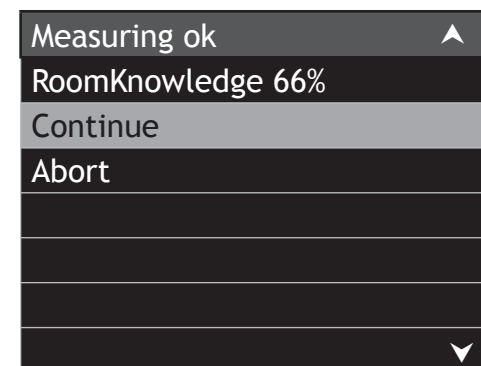
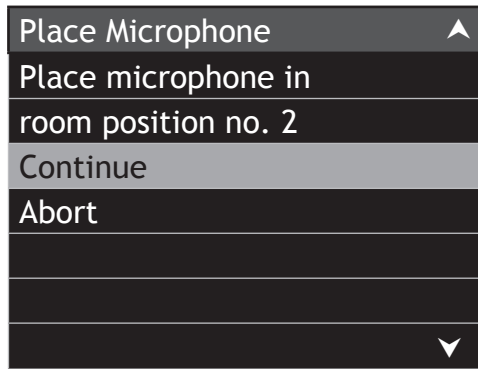

Figure 38
Figure 39
9. At the end of the "Measuring Room Position 1" figure 38 will appear. For the best sonic results, it is important to continue measuring additional room positions, until the RoomKnowledge Data is at least 90%. Relocate the microphone to a second room position and press SELECT to continue. Refer to figures 39 and 40 (on the next page). Depending on the room itself and the objects in the room, it might take many different room positions for the measurements to reach a RoomKnowledge score over 90%.